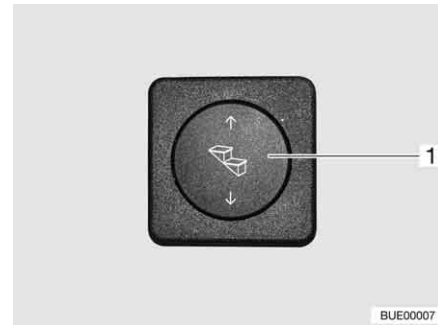

Fig. 4 Operating button for entrance step
- Press the rocker button (Fig. 4, 1) down and hold it pressed (at least 3 seconds) until the entrance step has extended completely.
- Press the rocker button (Fig. 4, 1) up until the entrance step has retracted completely.